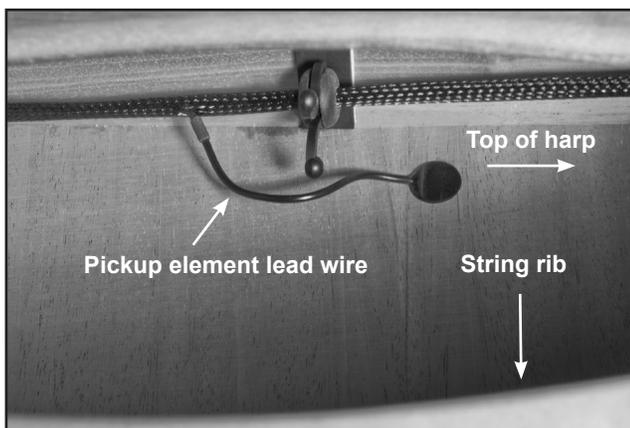

Figure 7 – Pickup Element Installation
2. Orient the harness so the pickup element lead wires point toward the string rib, away from the side of the harp (see figure 7 on next page).
- d. The lead wire should naturally curve away from the soundboard (see figure 7). If necessary, adjust the pickup harness in the clips to ensure that the lead wires won't touch the soundboard and cause unwanted vibration.
- e. For all Dusty Strings harp models, the pickup element lead wire will bend upward, toward the top of the harp (see figure 7).